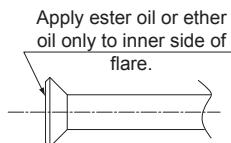

Fig. 5
- Apply ether oil or ester oil only to inner side of the flare and screw in the flare nut three to four turns first by hand at the time of connecting the flare nut. (Refer to Fig. 5)